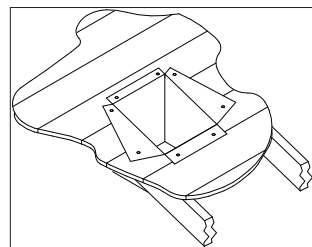

Figure 21
7. Using tin snips, cut the Support Box from the top corners down to the roof line, and fold the resulting flap over the roof sheathing (**Figure 21**). Before nailing it to roof, run a bead of non-hardening sealant around the outside top edges of the Support Box so as to make a seal between the box and the roof. Clean out any combustible material or debris from inside the Support Box.